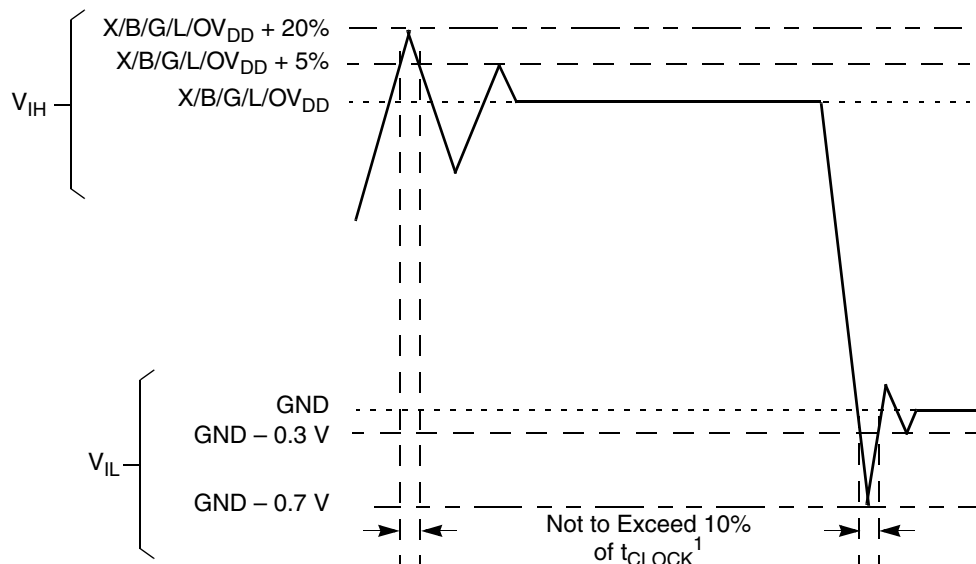

Figure 2. Overshoot/Undershoot voltage for $BV_{\text{IN}}/MV_{\text{IN}}/LV_{\text{IN}}/OV_{\text{IN}}/XV_{\text{IN}}$
- (X,B,G,L,O)VIN and MV_{REF} may overshoot/undershoot to a voltage and for a maximum duration as shown in Figure 2.
3. (L,X,B,O,G)V_{IN} may overshoot (for V_{IH}) or undershoot (for V_{IL}) to the voltages and maximum duration shown in Figure 2.